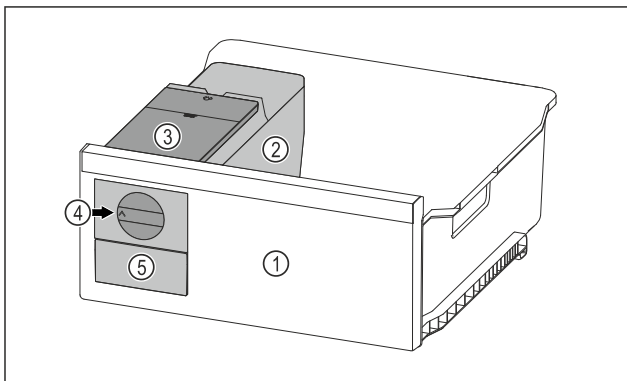

Fig. 80 Example illustration
- ▶ Turn the rotary knob Fig. 80 (4) clockwise as far as it will go.
- ▷ Ice cubes fall from the ice cube tray into the ice cube drawer Fig. 80 (5).